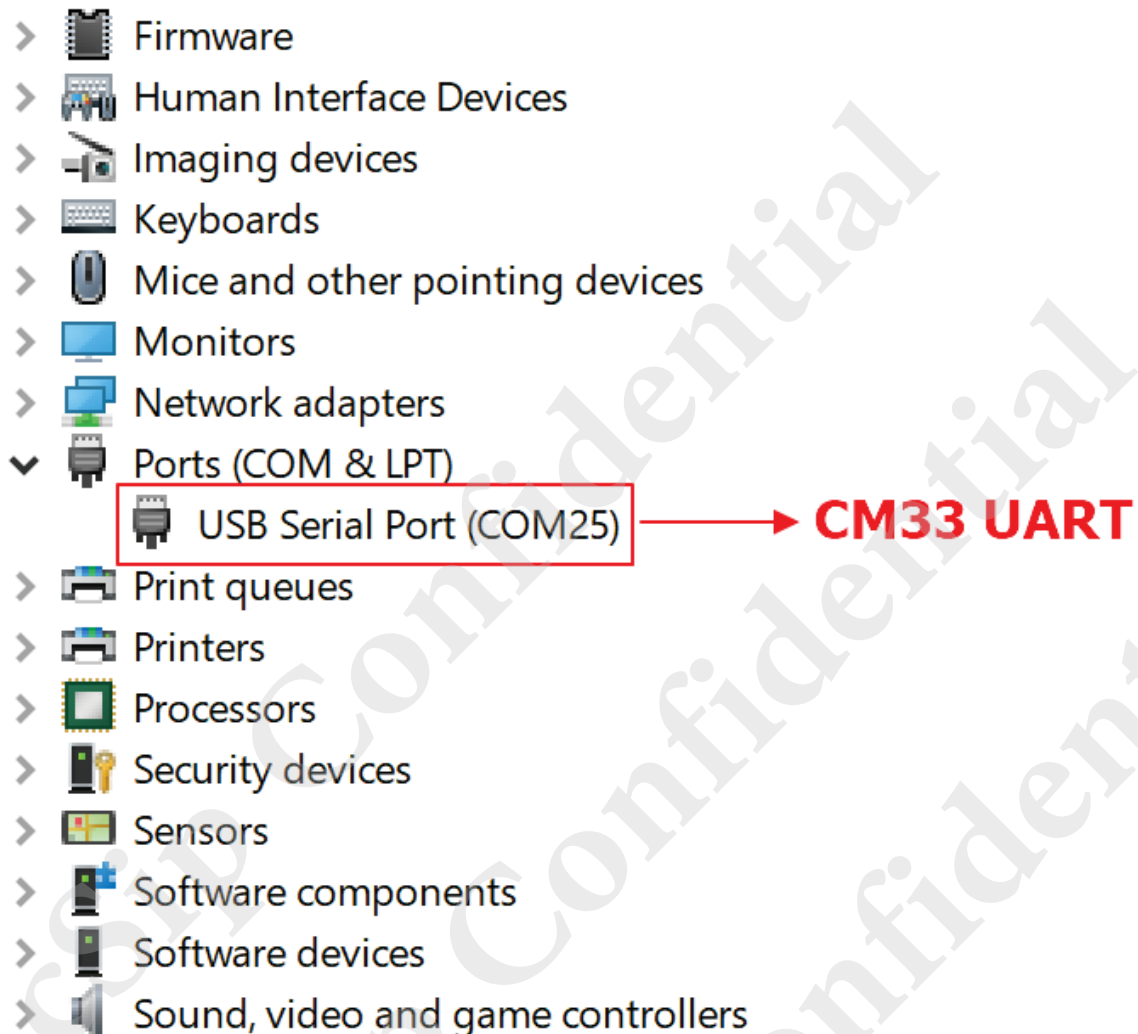

Figure 3. COM port associated with the EK-AI7933CLD
- 4) In Device Manager, navigate to Ports (COM & LPT) (see Figure 3).
- 5) A new COM device should appear under Ports (COM & LPT) in Device Manager, as shown in Figure 3. Note the COMx port number of the serial communication port, this information is needed to send command and receive logs from the COM port.
Due to the com port numbers (COMx) are different at different PC. As red block in Figure 3. showed, means "CM33 UART".